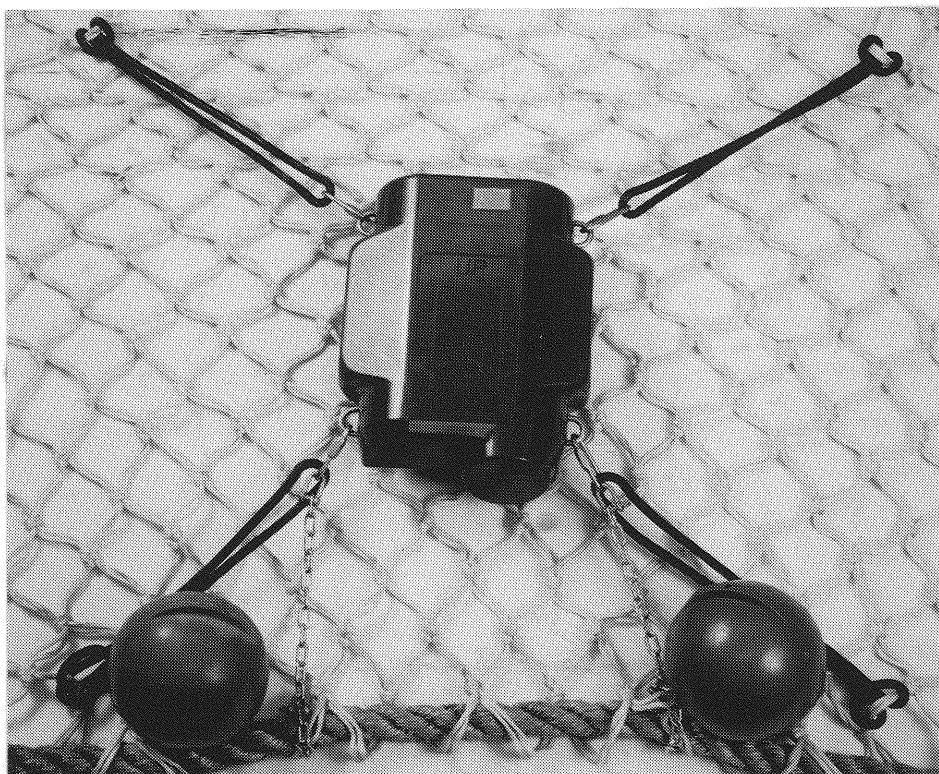
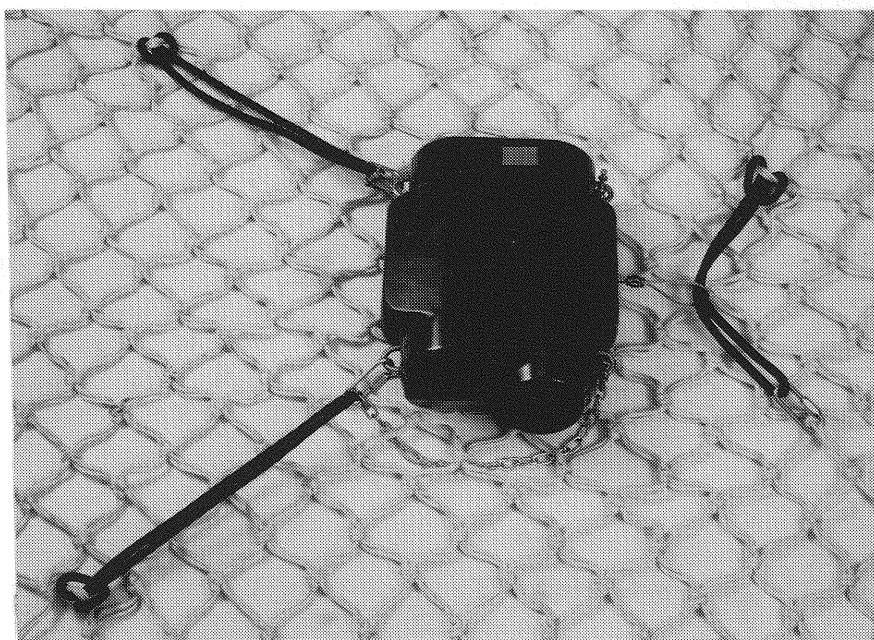

Figure 13 Securing the sensors (A)
Figure 14 Securing the sensors (B)
3. Once the sensor is fastened in the correct position, attach the safety chains. These must either be shackled to the head-rope and then to the front lugs on the sensor (if possible in the case of height, depth and temperature sensors)(refer to Figure 13), or passed through and under the net and shackled to the appropriate pairs of lugs on the sensor (refer to Figure 14).